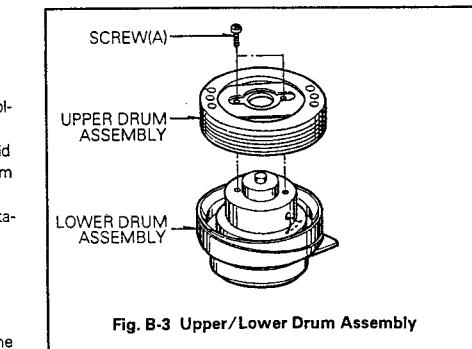

Fig. B-3 Upper/Lower Drum Assembly
- ② After reinstalling the Drum Brush, the Drum Brush should be aligned with the center of vertical axis of Drum Assembly.
- ③ After completing the reassembly, adjust the transportation system and the Servo P.G.
3. Upper and Lower Drum Assembly (Fig. B-3)